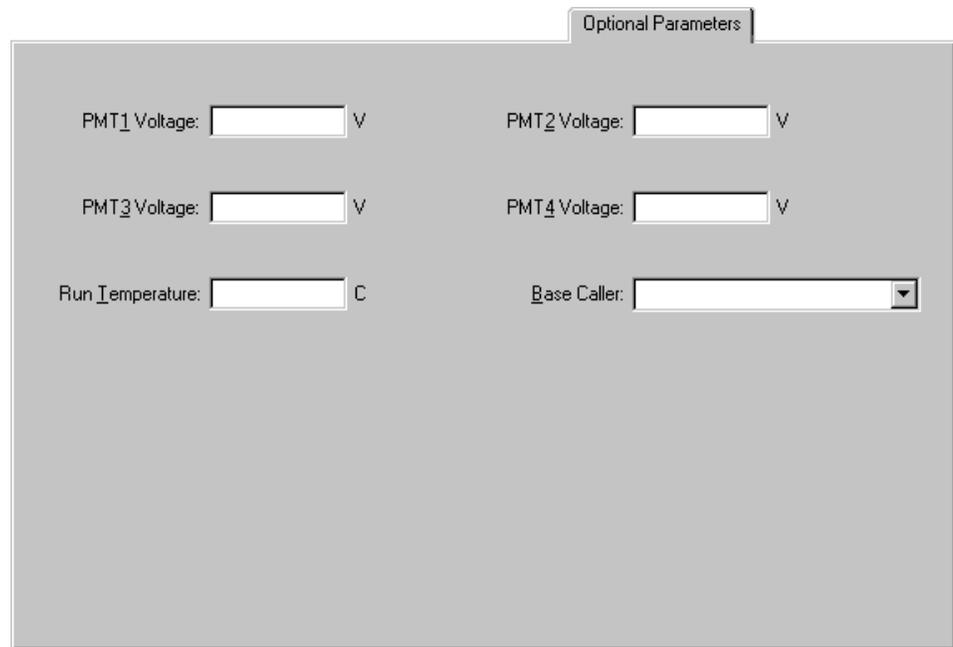

Figure 6-4. The Optional Parameters tab of the Plate Setup window for sequencing.
- Optional Parameters tab (figure 6-4)
Optional Parameters (figure 6-4)	<p>The optional parameters are—</p> <ul style="list-style-type: none"> • Parameters typically defined in the Instrument Control window that you want to override for a given plate: PMT1 voltage, PMT2 voltage, PMT3 voltage, PMT4 voltage, and run temperature. • The base caller you want to use for automatic base calling after the run. <p>To display the range of values for a given parameter, click the corresponding box. The range appears in the status bar at the bottom of the window.</p>
- (Optional) In the **Optional Parameters** tab (figure 6-4), type or edit the values that you want to use for the given plate. Any instrument parameter values you provide here will overwrite the values provided in the Instrument Control window.